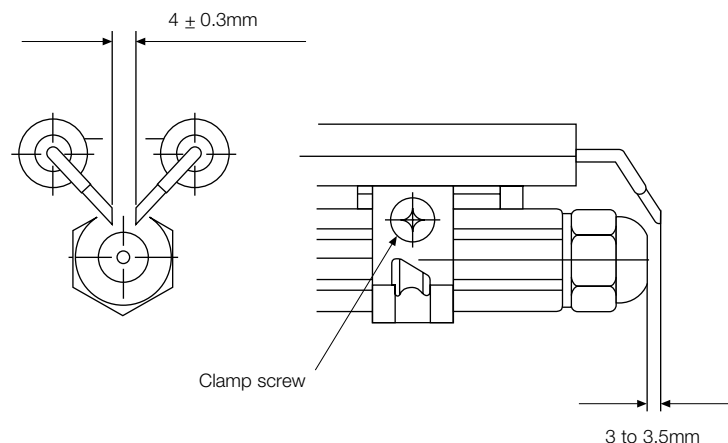

Figure 11-5: Electrodes showing settings
4. Check the electrode settings as shown in Figure 11-5.
9. Always check the electrode settings after replacing the nozzle, see Figure 11-5.